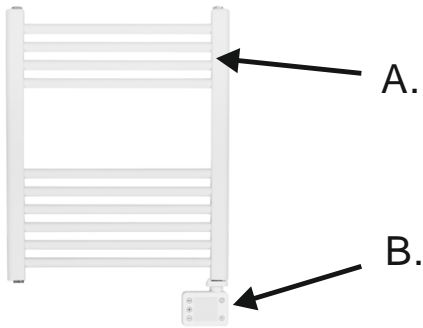

Figure 10.
**DEVICE DESCRIPTION:** Heater - look at figure 10